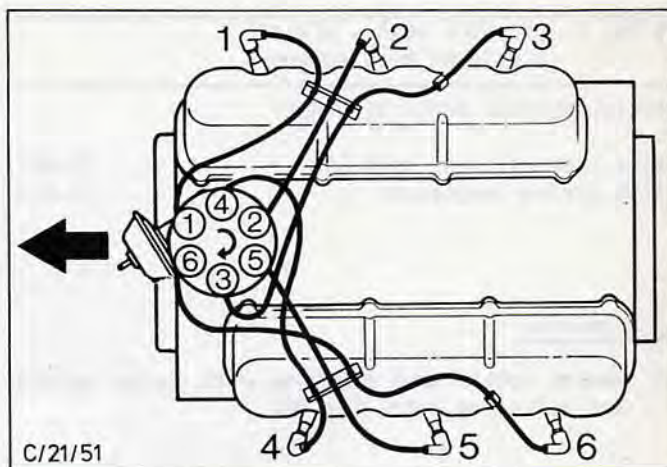

Fig.85. Arrangement of H.T. leads (firing order).
30. Fit distributor cap and connect HT leads to spark plugs and coil in the sequence shown in Fig.85. Attach vacuum line to carburettor.